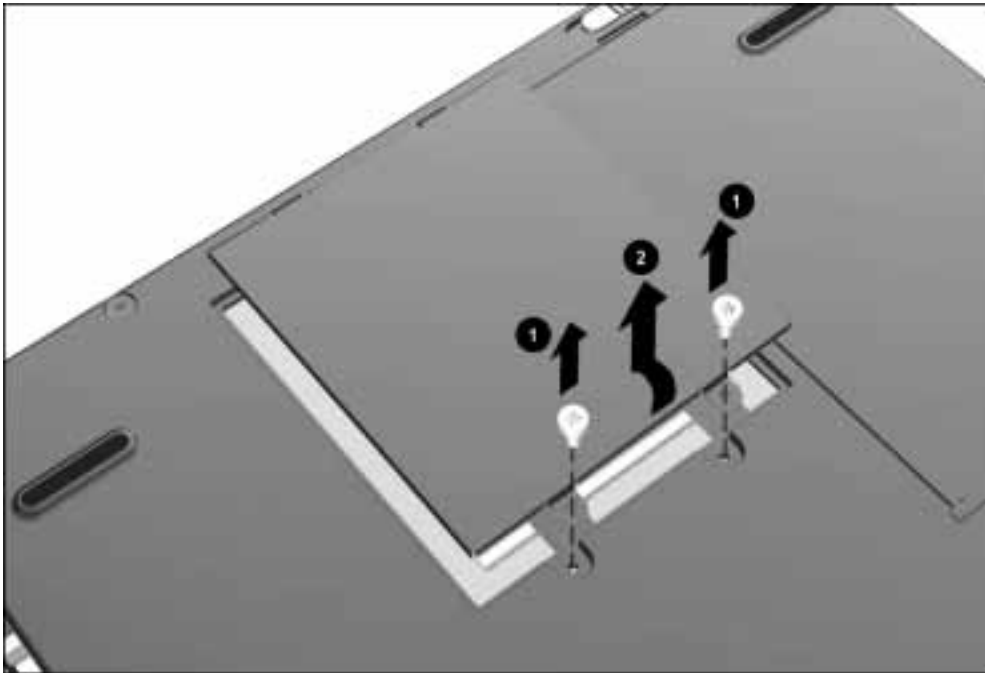

Figure 5-16. *Removing the Memory Compartment Cover*
3. Use a Torx T-10 screwdriver or the security screwdriver to remove the factory-installed screws that secure the memory compartment cover to the computer ❶ (Figure 5-16). If the security screws have been installed, use the security screwdriver to remove them.
4. Lift the right side of the cover and swing it away from the computer ❷.